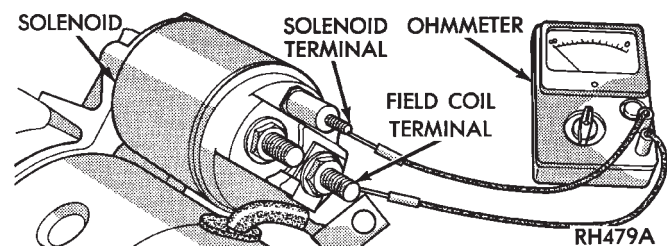

Fig. 9 Continuity Test Between Solenoid Terminal and Field Coil Terminal - Typical
(1) Remove the starter motor from the vehicle. Refer to **Starter Motor** in the Removal and Installation section of this group for the procedures.
(2) Disconnect the wire from the solenoid field coil terminal.
(3) Check for continuity between the solenoid terminal and the solenoid field coil terminal with a continuity tester (Fig. 9). There should be continuity. If OK, go to Step 4. If not OK, replace the faulty starter motor assembly.